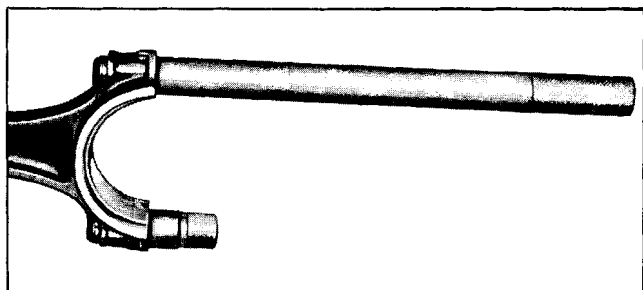

Fig. 6-69 Guide Tool J-5239 Installed
1. Install connecting rod bolt guide set J-5239 on connecting rod bolts (Fig. 6-69).